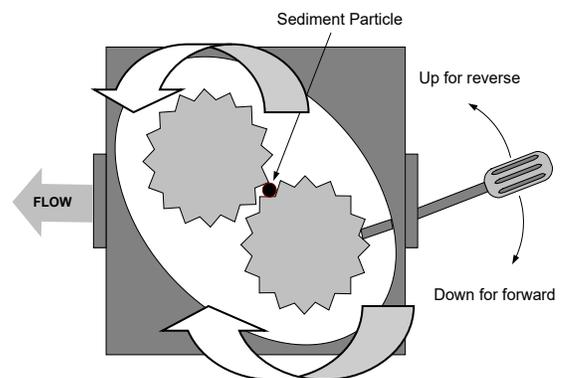

Figure 37
3. Use a screwdriver to manually turn the gears (see Figure 37).